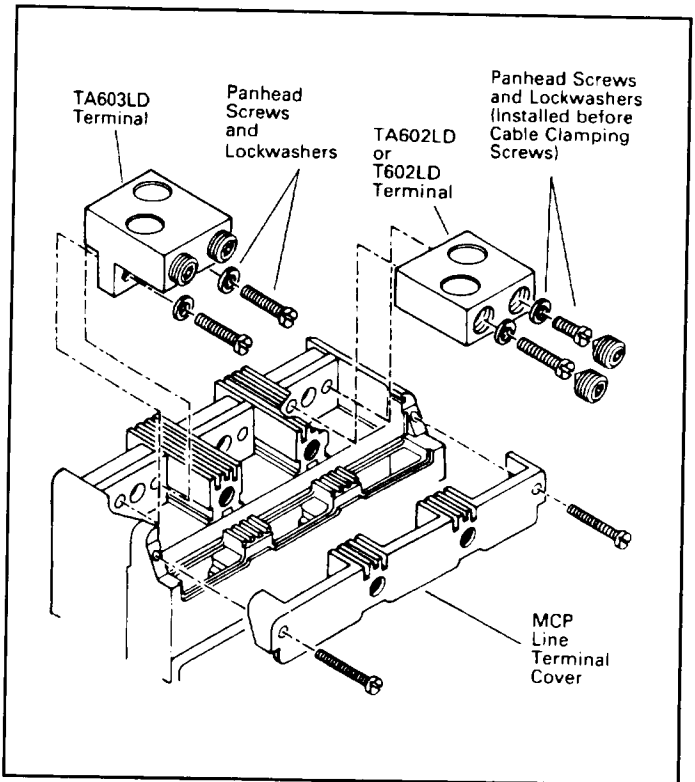

Fig. 2-1 Terminal Installation
- 2-5. If not already installed, mount wire connecting terminals as shown in Fig. 2-1. Secure the terminals to the MCP using two panhead slotted screws and lockwashers. Torque to 6-8 lb-ft. (8.14-10.85 N.m). With the MCP mounted and before the conductors are installed and conductor clamping screws inserted, the terminal mounting screws may be checked for correct torque.